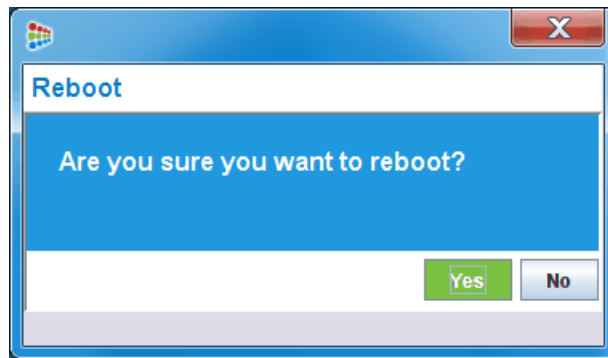

Figure 96. Reboot dialog
4. The reboot confirmation screen appears, as shown in Figure 96.